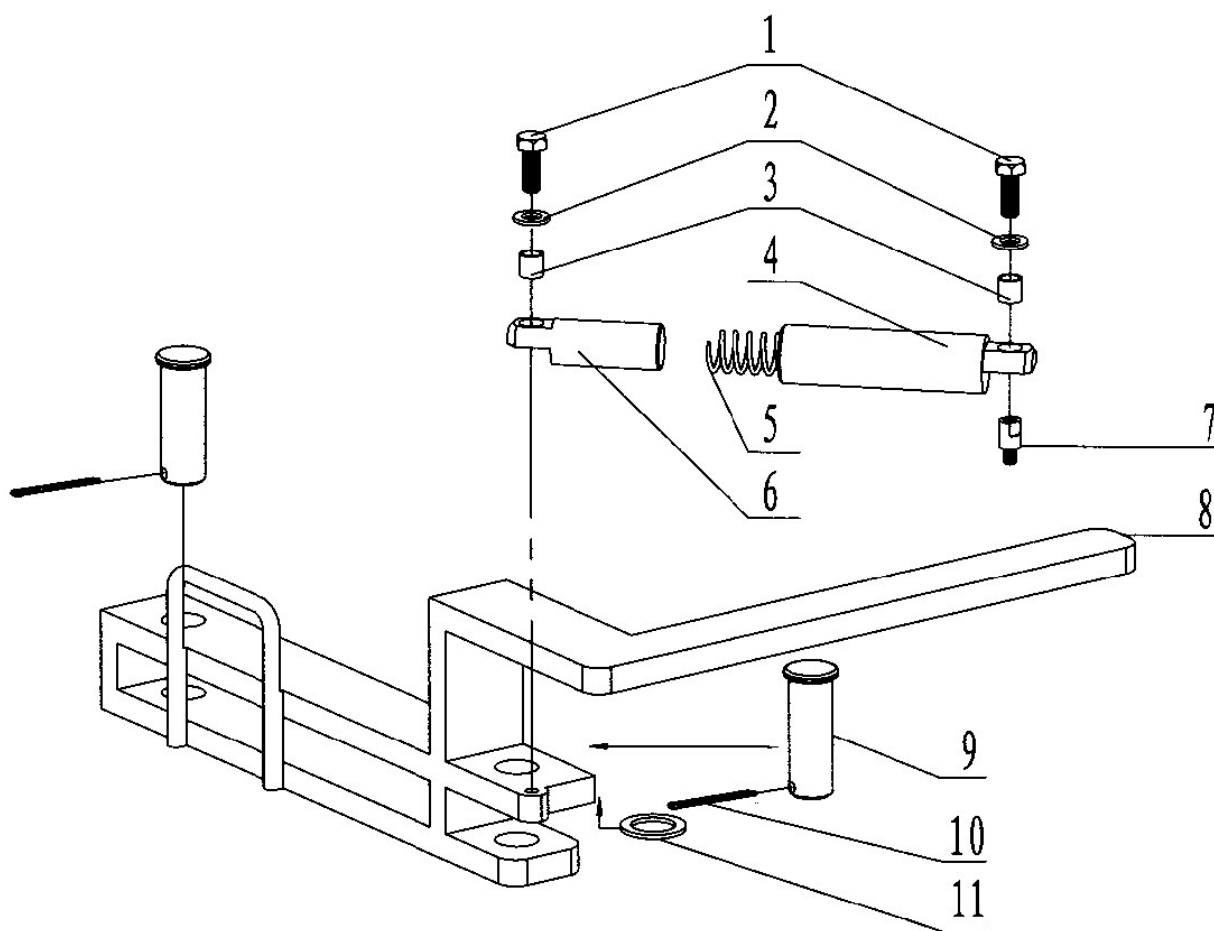

Fig 27
7.24 Backup Tong Safety door assembly (Fig27, Table26)